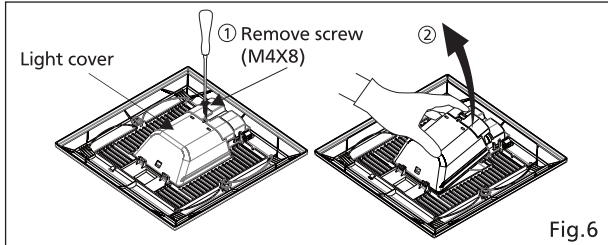

Fig.6
8. Remove screw (M4X8). Remove light cover. (Fig.6)